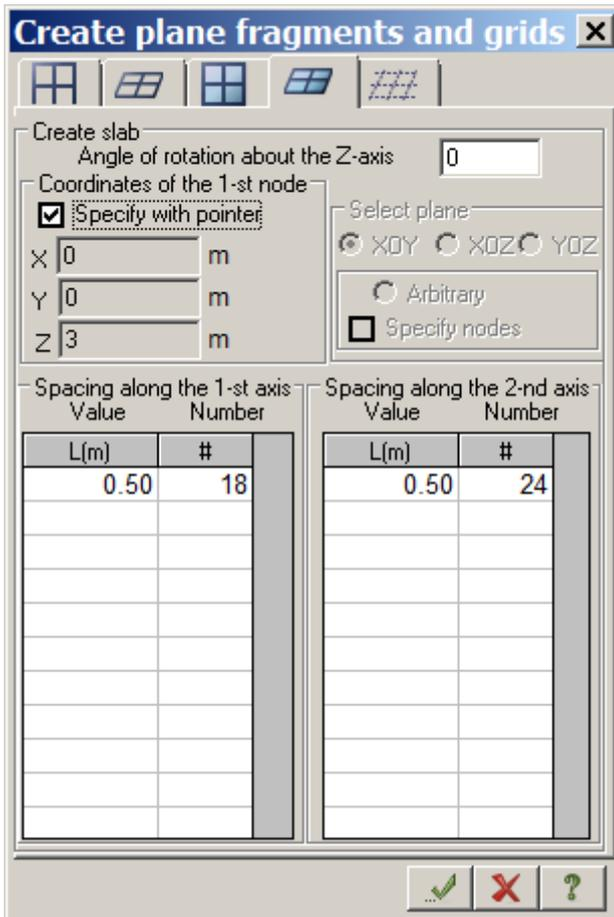

Figure 4.4 Create plane fragments and grids dialog box
- ⇒ Under **Coordinates of the 1st node**, select the **Specify with pointer** check box and specify node No.4 with the pointer (the node will be coloured pink and its coordinates will be displayed in the dialog box) (see Fig.4.4).